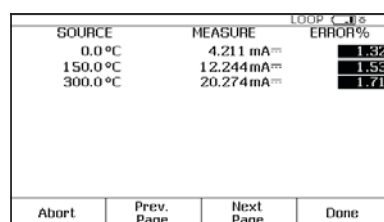

Figure 13.
4. Press the **Auto Test** softkey to begin calibration. Once the test is complete, an error summary table is displayed (Figure 13). Test errors exceeding the tolerance are highlighted. When done viewing the table, press the **Done** softkey. Press **ENTER** to change the tag, serial number or ID fields.